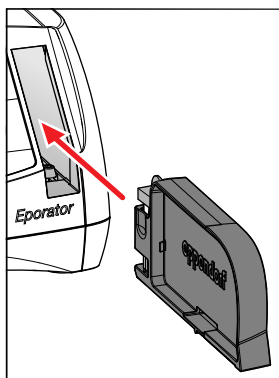

Fig. 5: Insert the cuvette carrier
- Slide the carrier in the cuvette shaft of the Eporator until it engages (Fig. 5 on p. 17).